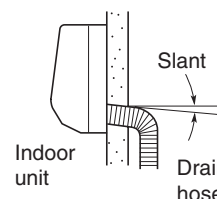
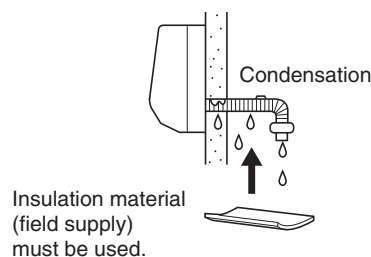

Fig. 1-48
Fig. 1-49
- (1) The drain hose should be slanted downward on the outdoor side. (Fig. 1-48)
- (2) Never form a trap in the course of the hose.
- (3) If the drain hose will run in the room, insulate* the hose so that chilled condensation will not damage furniture or floors. (Fig. 1-49)